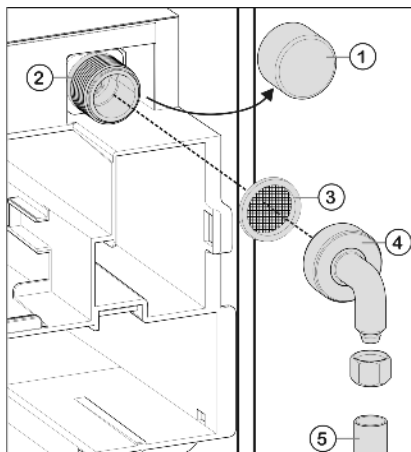

Fig. 33
- Remove the cap Fig. 33 (1) from the solenoid valve Fig. 33 (2).
- Ensure that the gasket Fig. 33 (3) is inserted in the elbow connection Fig. 33 (4) supplied.
- Connect the elbow adapter Fig. 33 (4) to the solenoid valve Fig. 33 (2) and tighten with an open-ended wrench, for example.
- Connect the domestic water supply Fig. 33 (5) (e.g. copper pipe) to the elbow connector Fig. 33 (4).